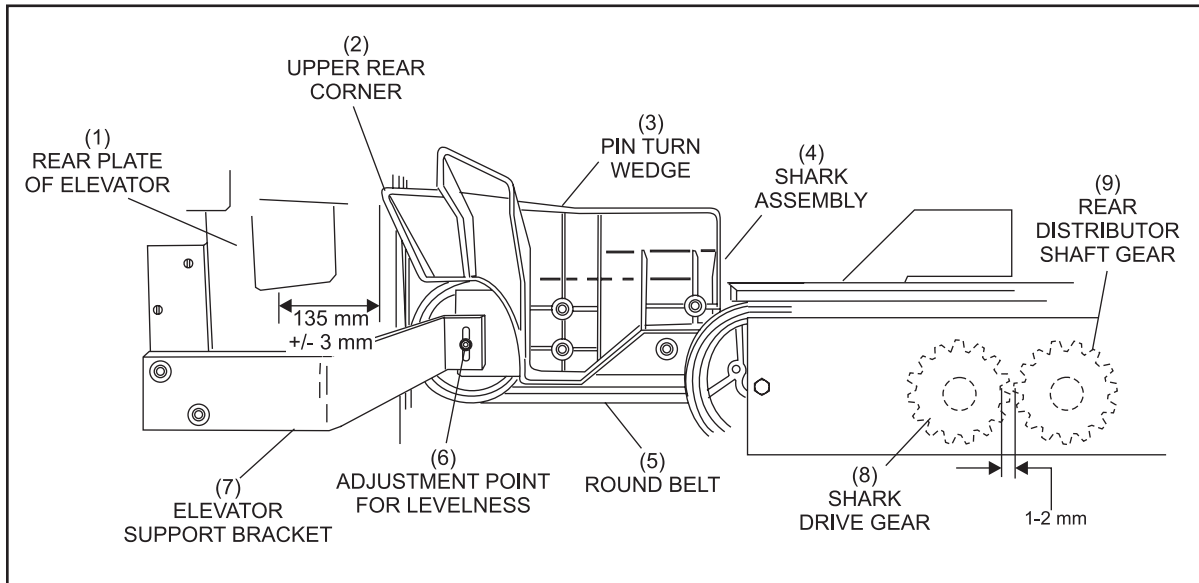
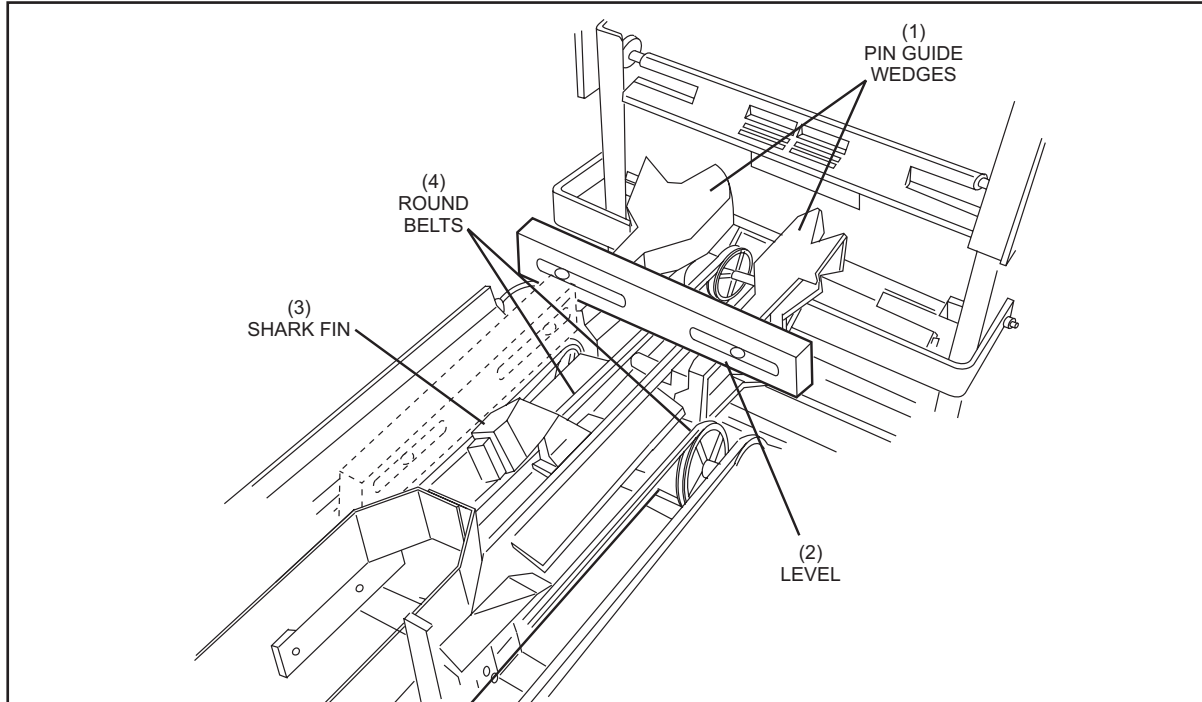
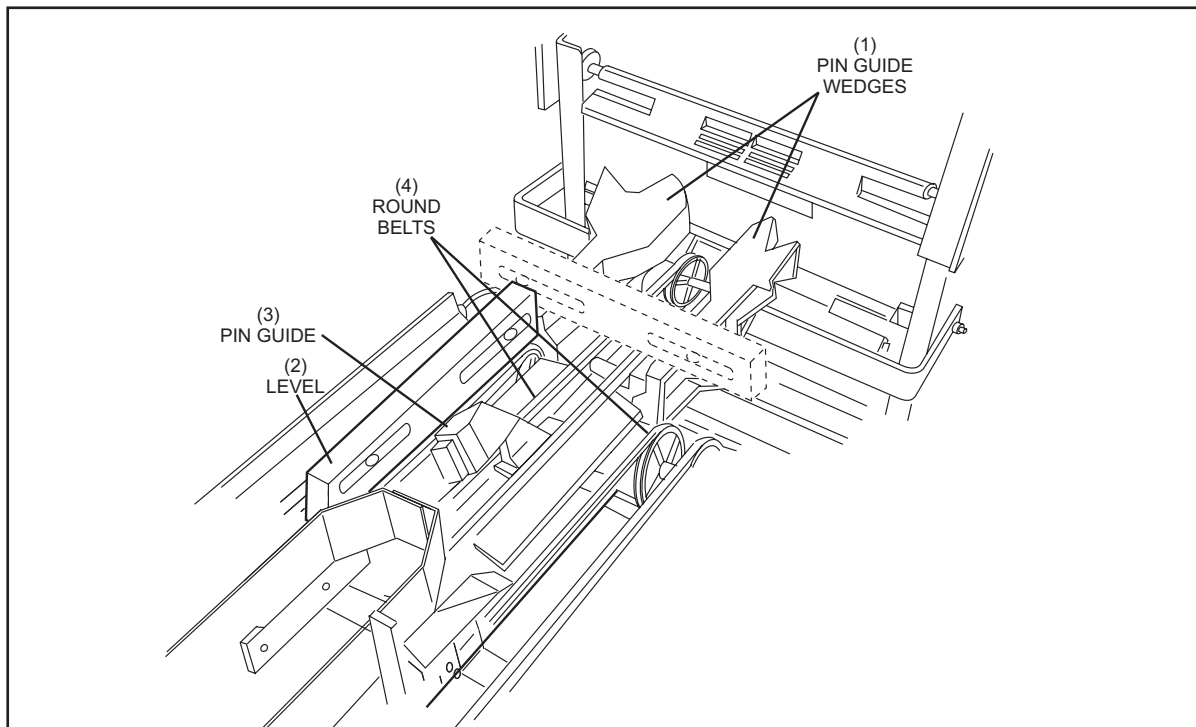

Figure 5-20. Pin Turn Wedge Positioning.
Figure 5-21. Shark Switch Leveling Adjustment - Side to Side.
Figure 5-22. Shark Switch Leveling Adjustment - Front to Back.
The upper rear corner of each pin turn wedge must be 135 mm + 3 mm from the rear plate of the elevator and there must be approximately 1-2 mm tooth gap at the gears between the shark assembly and the distributor. To verify proper tooth gap, check for 1-2 mm of movement by manually moving the belt forward and backward. Refer to *Figure 5-20*. This will allow for the proper placement of the pins into the shark assembly.
1. Loosen the pin turn wedge mounting hardware and position the wedge to 135 mm. Retighten the hardware. Refer to *Figure 5-20*.
2. Adjust the shark assembly so that the pin turn wedges are level side to side and up slightly from back to front. (approximately 2 degrees or 1/2 bubble on the level). Refer to *Figure 5-21* and *Figure 5-22* to properly position the level and *Figure 5-20* for the adjustment location.